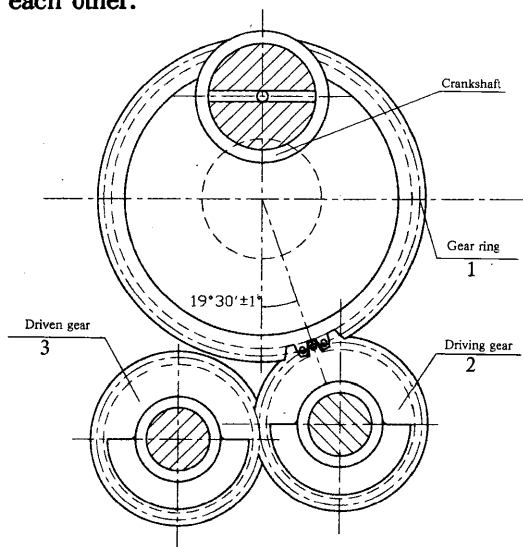
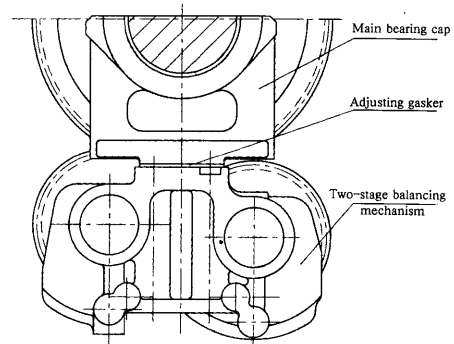

Fig 7
Fig 8
In order to balance the two – order reciprocating inertia force of piston and connecting rod subassembly of 4 – cylinder engine and decrease the vibration, two – stage balancing mechanism is adopted. Drive gear ring (1) of transmitting two – stage balancing mechanism is mounted on the crank arm, it should be heated to 250°C in mounting. "0 – 0" mark on gear should be marked on the specified position (fig 7). The mark "1" on the balancing shaft gear (2) of two – stage balancing transmitting mechanism should be matched with the mark "1 – 1" on gear (3). Two – stage balancing mechanism is mounted on the main bearing cap, in mounting, the mark "0 – 0" on gear ring should be matched with the mark on gear (2) of the balancing shaft. The gear side clearance is 0.2mm and can be adjusted by gasket (fig 8). Oil circuit should be unobstructed in mounting so as to ensure the lubrication of two – stage balancing mechanism bearing.